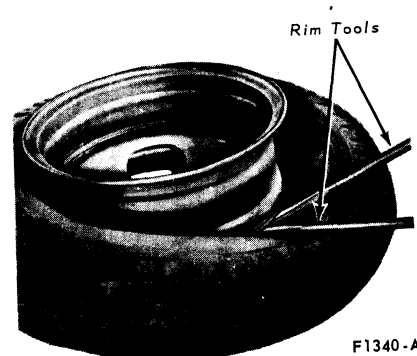

FIG. 7 Removing Tire From Rim
5. Turn the wheel over and loosen the opposite tire bead from the rim by driving the hook end of the rim tool between the rim flange and the tire bead. Pry the tire bead away from the taper, and remove the tire from the rim (Fig. 7).